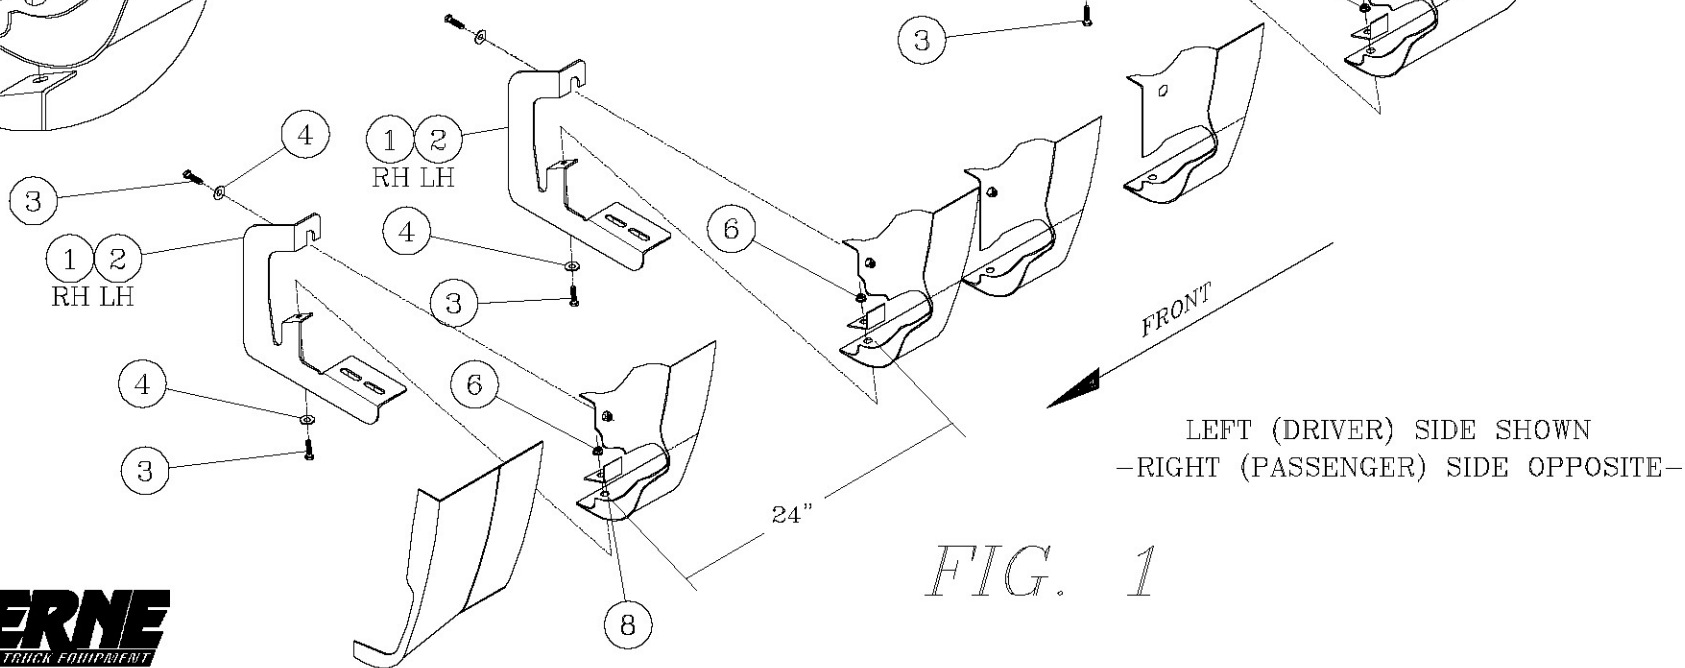

FIG. 1
2. ATTACH THE MOUNTING BRACKETS TO THE VEHICLE AS FOLLOWS: [SEE FIG. 1]
- 2.2 INSERT 5/16" MULTI-THREAD U-NUT (ITEM #7) INTO THE UPPER HOLES IN THE ROCKER PANEL (SEE FIG. 1).